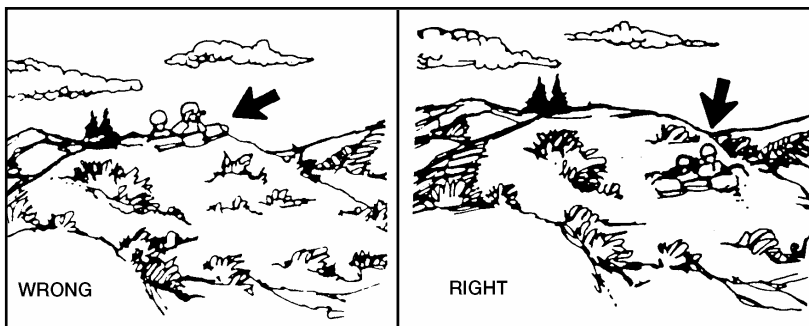

Figure 071-326-57053-53-1 1. OP Position.
- (1) Maximum observation of the desired area (specified by the platoon leader).
- (2) Cover and concealment for the occupants of the OP.
- (3) Concealed routes to and from the OP.
- c. Usually, the best location for an OP is on or near the military crest of a hill. Topographical crests should be avoided because of the possibility of being skylined. It may be appropriate to establish the OP well down the forward slope when observation is restricted by the terrain (Figure 071-326-57053-53-1160).